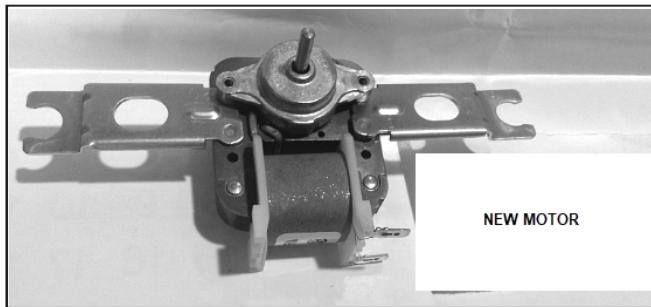

Figure 7
- Reinstall the bearing block screws. See *Figure 7*